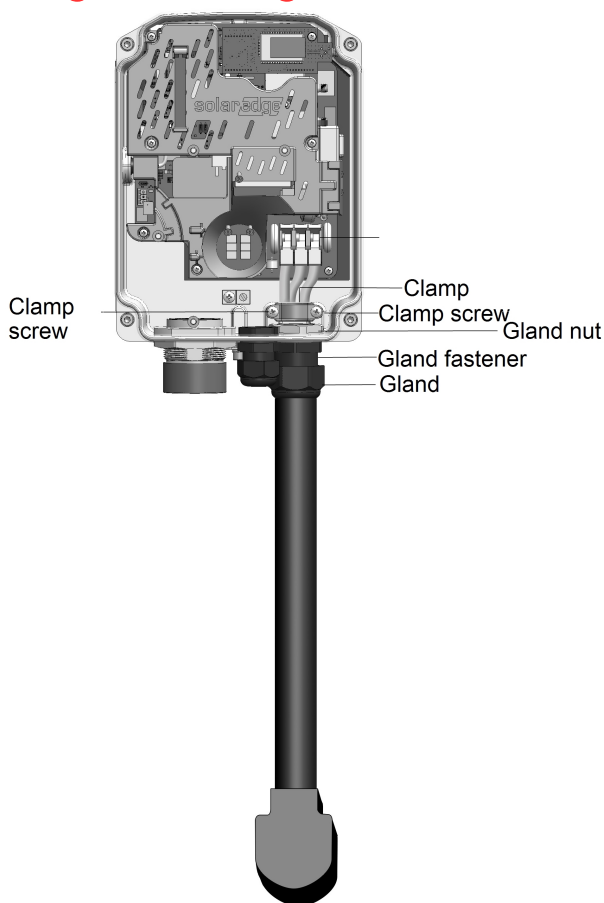

Figure 11: Inside the SolarEdge Home EV Charger
2. Release the two clamping screws and remove the clamp. See *Figure 11*.
3. Push the terminal blocks levers up to release the G, L1 and L2 wires. See *Figure 11*
4. Release the gland nut. See *Figure 11*.
5. Pull out the AC Plug cable from the conduit entry. See *Figure 11*.